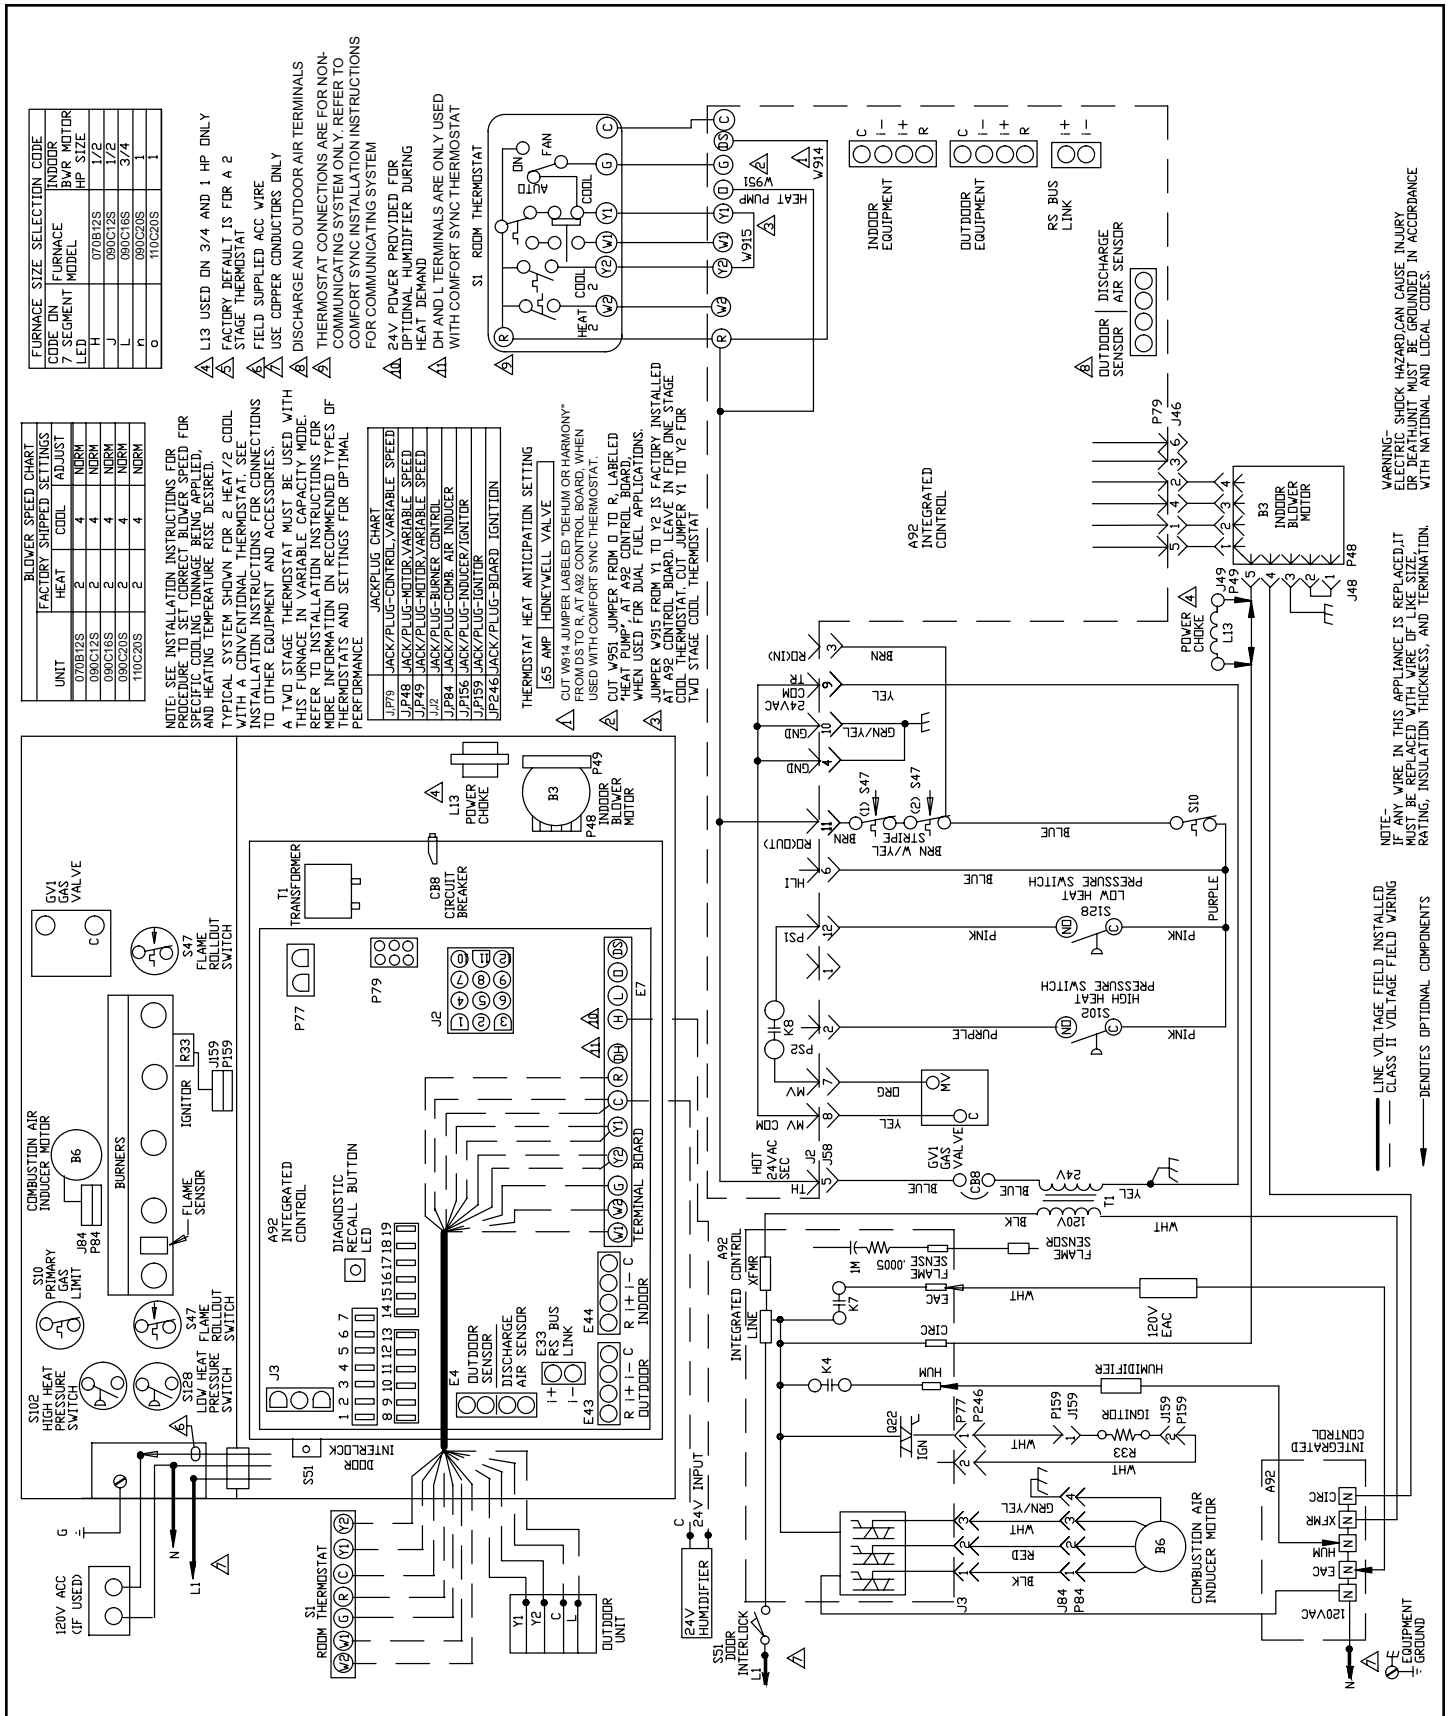
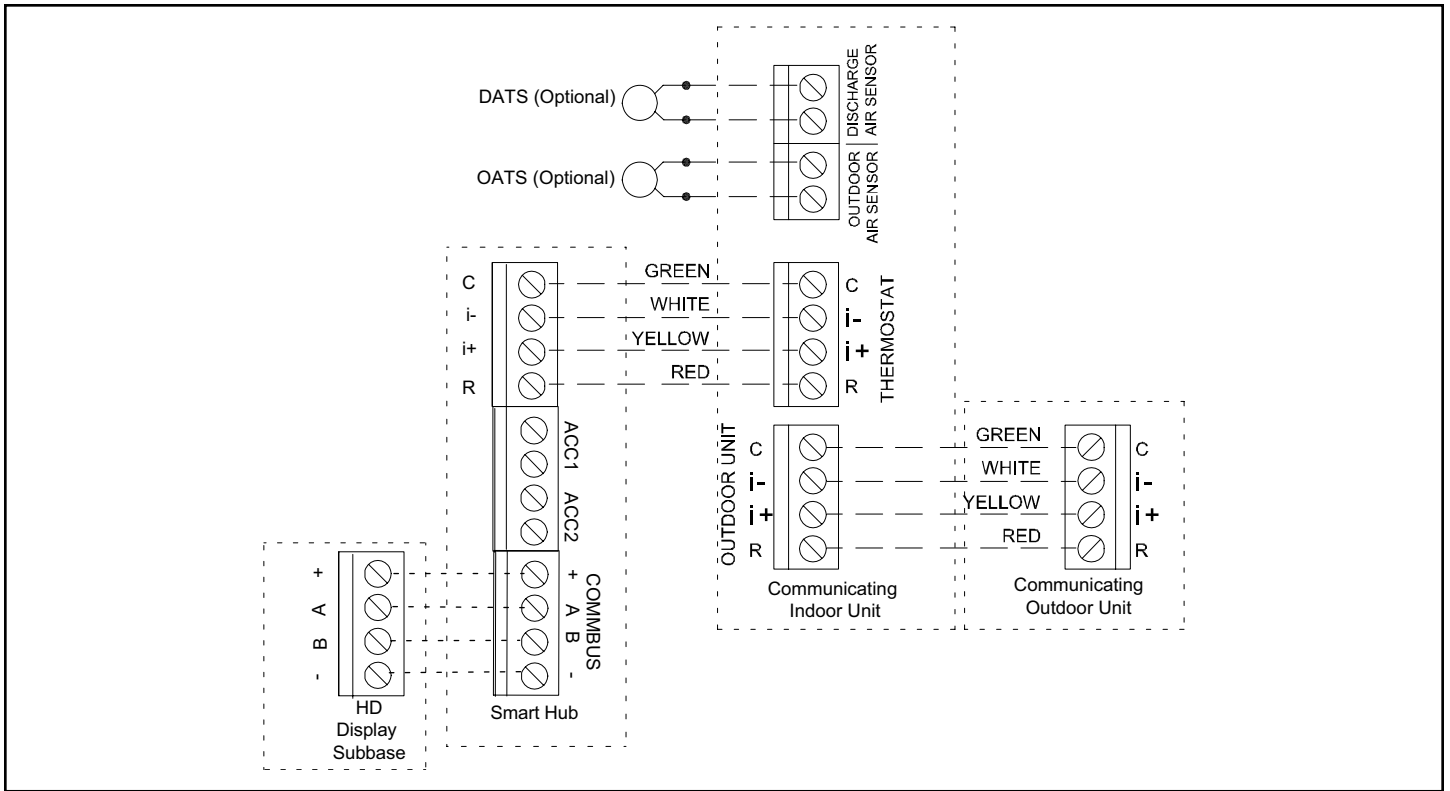

Figure 46. A97DSMV Typical Field Wiring Diagram for Standard Non-Communicating Thermostat
Figure 47. Comfort Sync A3 with Communicating Indoor and Outdoor Units
Refer to Figure 46 for unit field wiring. See Figure 47 through Figure 55 for wiring of Comfort Sync thermostat in communicating applications. Table 14 shows DIP switch and onboard link settings for non-communicating thermostat applications.
5. Complete the wiring connections to the equipment. Use the provided unit wiring diagram and the field wiring diagram shown in Figure 46. Use 18 gauge wire or larger that is suitable for Class II rating for thermostat connections.